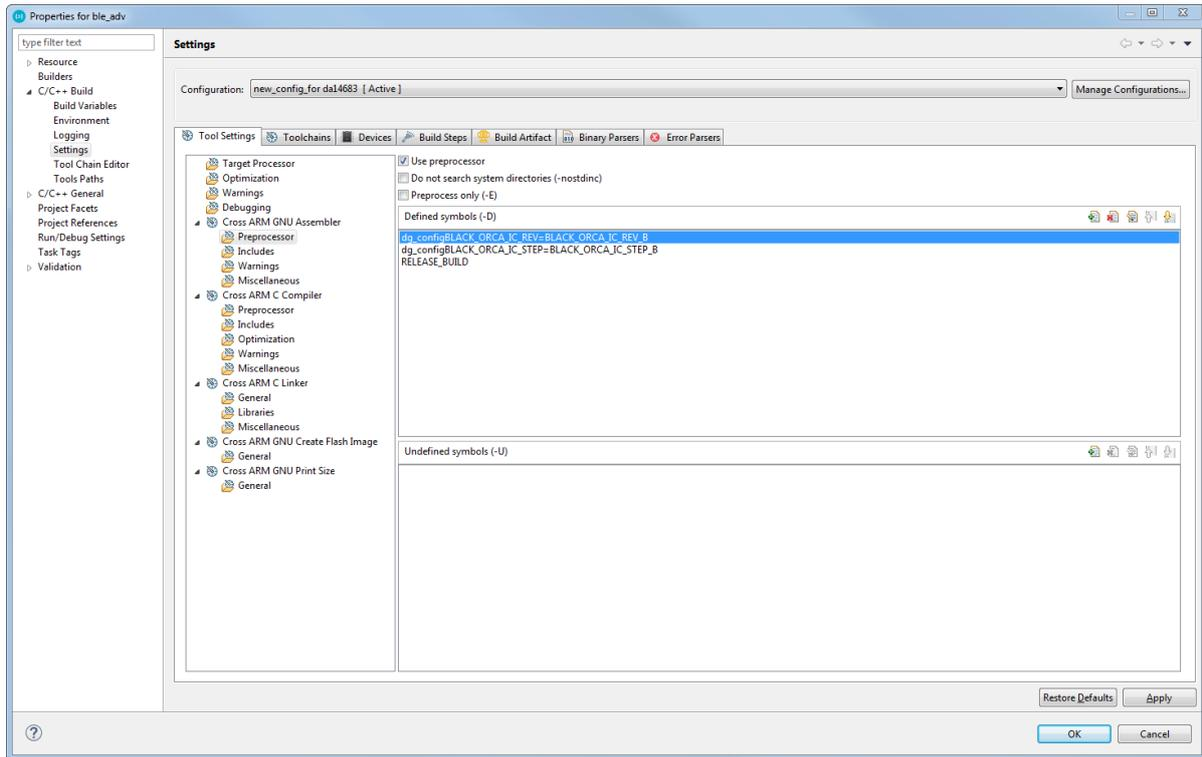
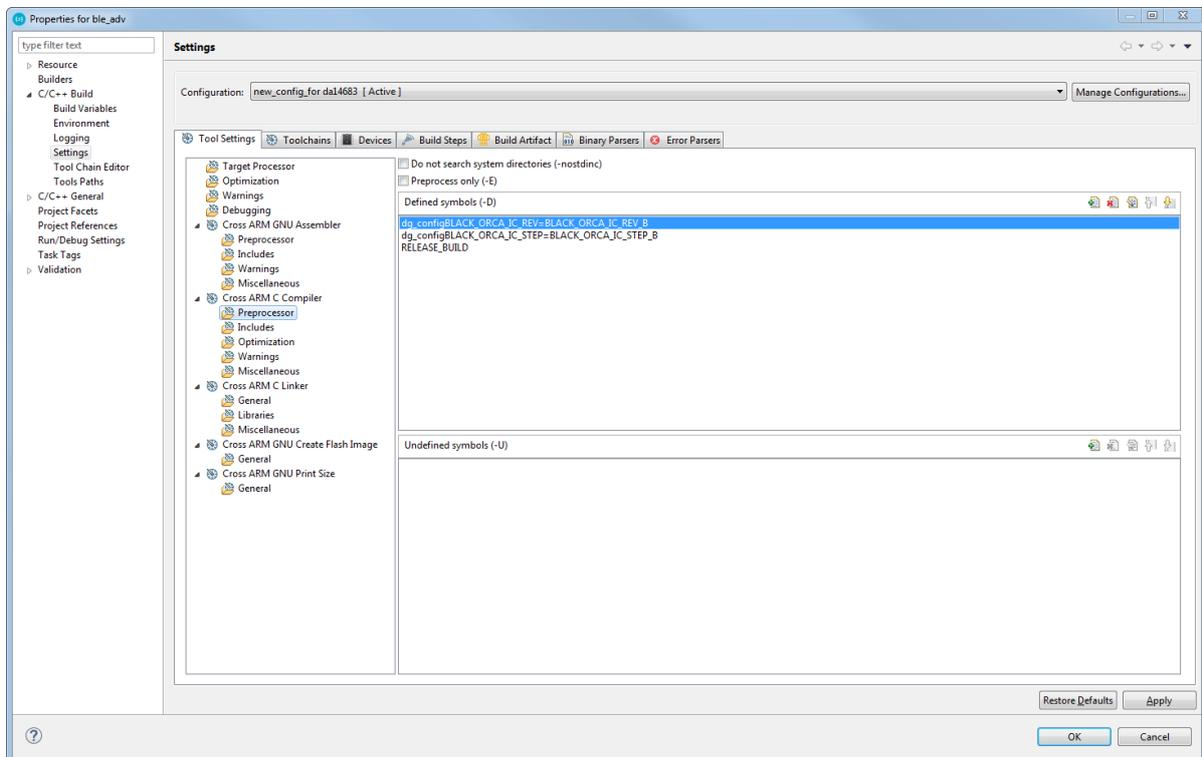

Figure 5: Edit assembly defined symbols
Figure 6: Edit compiler defined symbols
| Figure 5: Edit assembly defined symbols.....   | 6 |
| Figure 6: Edit compiler defined symbols .....  | 6 |
5. Make sure the new configuration is selected at the top of the window. In the "**C/C++ Build/Settings**" area, edit the preprocessor setting for both **Cross ARM GNU assembler** (Figure 5) and **Cross ARM C Compiler** (Figure 6). You should edit the IC\_REV and IC\_STEP to reflect the following values: